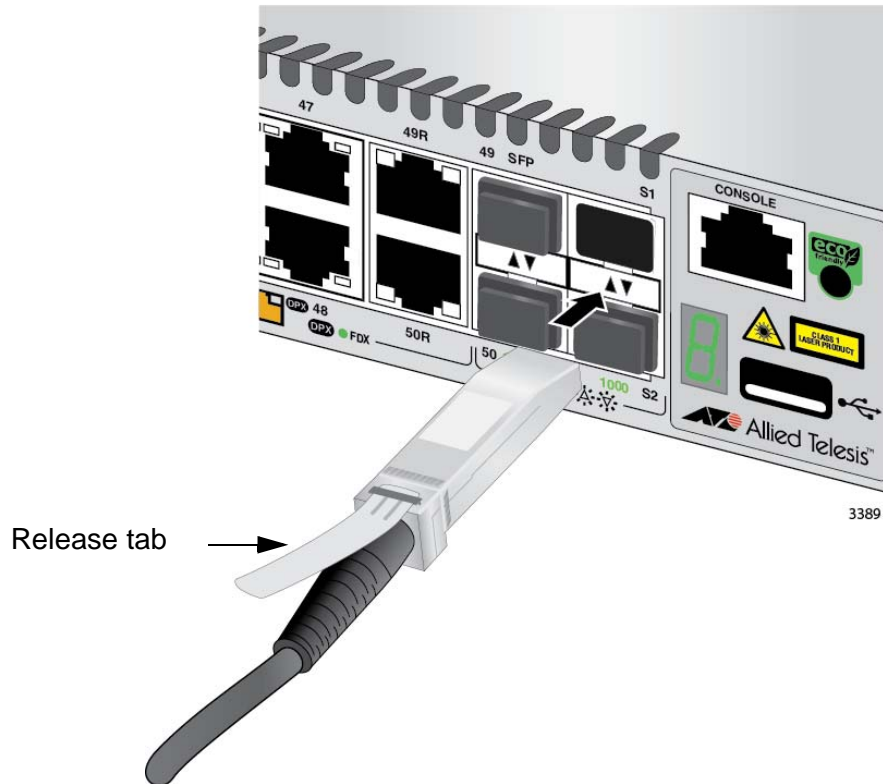

Figure 39. Installing the AT-StackXS/1.0 Transceiver in Slot S1
4. Position the transceiver with the release tab on top and slide the transceiver into the slot, as shown in Figure 39.